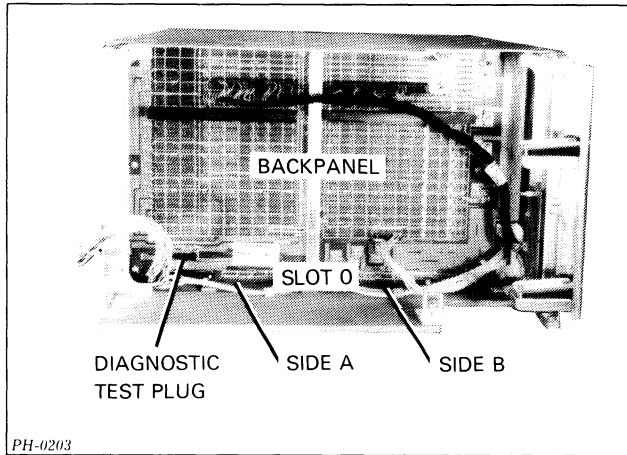

Figure 4.3 Diagnostic test plug
- c. Make sure the diagnostic test plug is inserted with the RUN label up (see Figure 4.3). If it is not, remove the plug, turn it over, and reinsert it with the RUN side up.